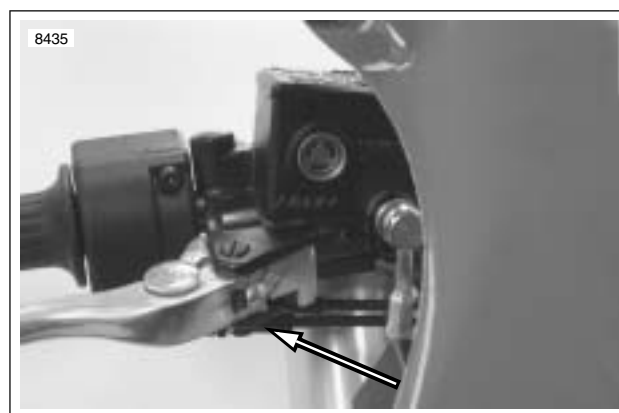

Figure 2-40. Front Brake Light Switch Connector
4. See Figure 2-40. Verify brake lamp switch wires are tight.